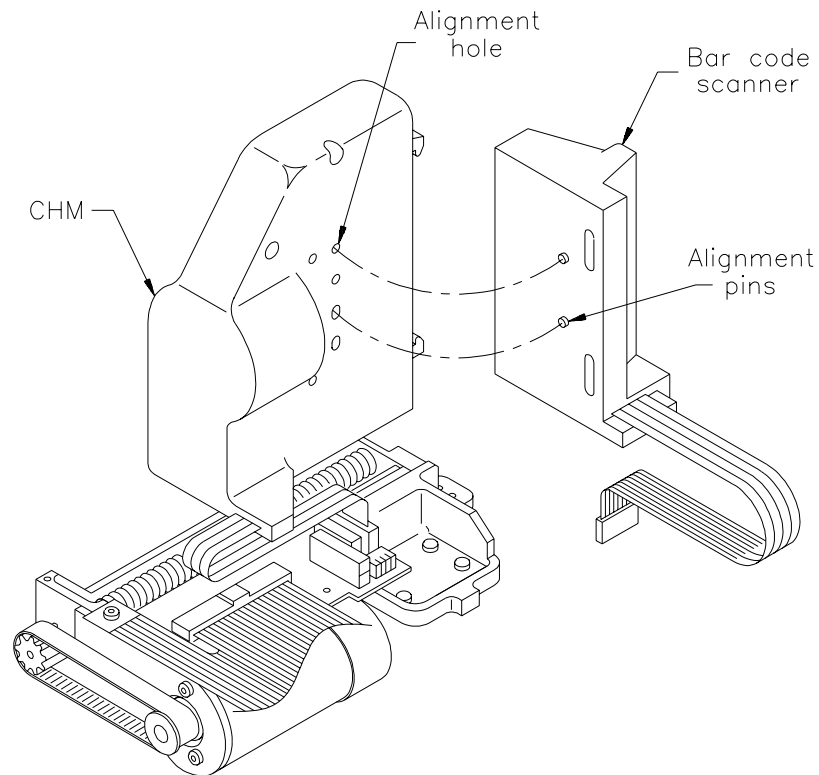

Figure 5 Alignment holes and pins
2. Locate the four alignment holes on the side of the CHM and the two alignment pins on the back of the bar code scanner, shown in Figure 5.
4. Line up the 2xx arrow on the bar code scanner with the notch on the CHM and insert the two alignment pins into the upper holes (the first and third holes, see Figure 5) on the CHM.